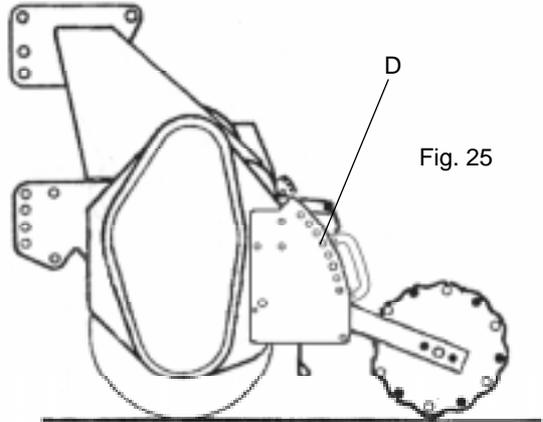

Fig. 25
Fig. 25 illustrates the attachment of a wheel assembly which can be fitted to the right or left hand side of the machine. Ensure the Scraper is always positioned above the depth control wheel. Position the depth control wheel to the required working depth by turning the handle (A).
Rotavators 500 can be equipped with Crumble Rollers specially designed for seedbed preparation. Fig. 25 illustrates the attachment of the Crumble Roller (A), Mounting Arm (B), to the roller and Depth Control Pin (D). The bolting position of the Mounting Arm allows variable distances of attachment of the Crumble Roller to the Rotavator, e.g. close mounting for Combi Trailing Board or distant for standard Trailing Board. The work depth is adjusted by the Control Pin (D).